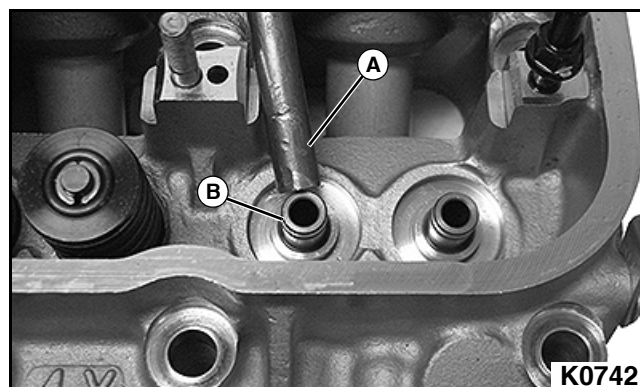

Figure 3-150: Break Off the Top of the Valve Guide
3. Using a brass drift (A), break off the top of the valve guide (B). **See Figure 3-150.**